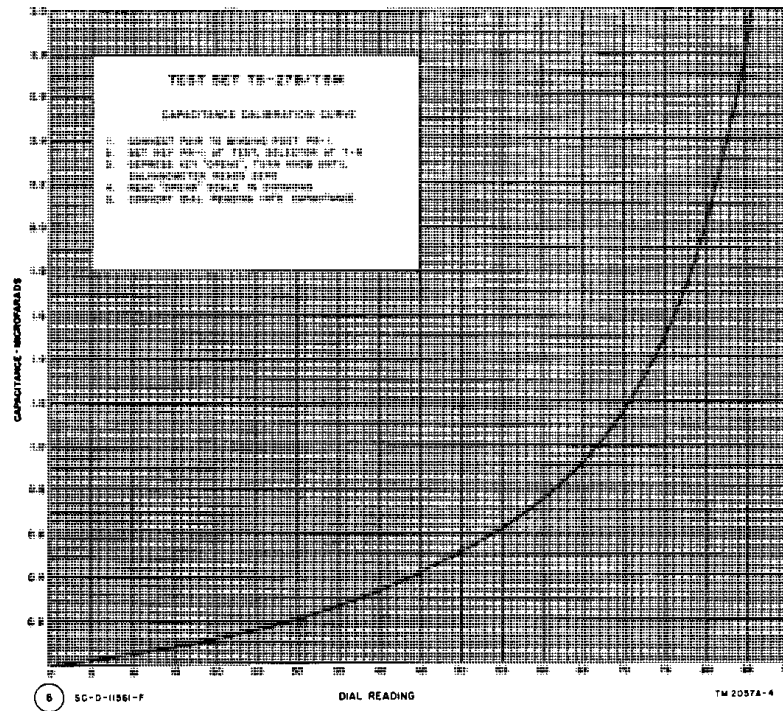

Figure 4. Test Set TS-27B/TSM, capacitance calibration curve.
- (1) Scale A is divided into 20 divisions marked from 0 to 100 in equal steps of 5. When used with the proper conversion charts (fig. 4 through 12), this scale is used to measure capacitance and to locate open circuits in communication lines (par. 17e).
- (2) Scale B is divided into 100 equal divisions. The two ends of the scale are marked 0, and the middle of the scale is marked 100. On each side of the 100 marking, the scale is marked in steps of 10 down to 0. This scale is used to locate shorts and crosses and is used as described in paragraph 17b.
- (3) Scale C is divided and marked counterclockwise from 0 to 5000. When used in conjunction with OHMS push switch S6, the scale reads directly in ohms and indicates conductor resistance up to approximately 5,000 ohms. The scale readings also may be multiplied by 100, and resistance values from about 500 to 500,000 ohms may be measured by using the scale together with OHMS X100 push switch S5. On this higher scale the values obtained may be used to indicate low insulation resistance. Scale C also may be used to indicate the approximate location of shorts or crosses when the resistance per mile of the conductor being tested is known, and a good wire is not available.
- (4) Scale D is divided in a manner similar to scale C, except that the divisions are marked from 0 to 50. This scale is used in conjunction with MEGOHMS push switch S4 and indicates resistance values in the range of 0 ohms to 50 megohms. This scale is the one generally used for insulation resistance measurements.
d. Read scale A. This is divided into 100 equal parts. Note the exact indication on the dial at which zero reading results on the galvanometer, then refer to the capacitance calibration curve (fig. 4) contained on the inside of the lid. From this curve, convert the dial reading into a capacitance value in microfarads. For example, if the dial reading is 70, refer to the point at which the curve passes through 70 and read 1.165 microfarads at the left-hand margin of the chart. The capacitance reading thus obtained is used to determine the location of opens. (Refer to the charts in the lid of the test set and to figures 4 through 12.)